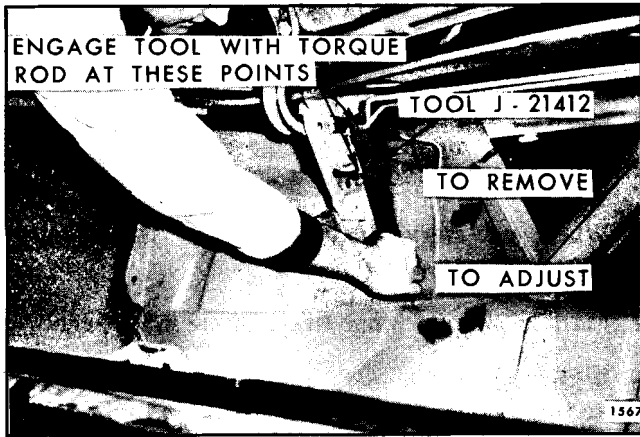

Fig. 8-14-Rear Compartment Torque Rod Adjustment—"A" Styles
- a. On "A" styles, use tool J-21412 or equivalent (Figure 8-14).
2. To remove torque rods, disengage end of torque rod from adjusting notches on hinge strap, as shown in Figures 8-14, 8-18 and 8-19. Then, allow handle of removal tool to rotate forward to relieve tension on rod. In some cases, it may be necessary to install a pair of vise-grip pliers on rod, as shown in Figures 8-18 and 8-19, and lift upward on pliers to disengage removal tool from end of rod.
1. To increase the amount of effort required to raise the rear compartment lid or to decrease the amount of effort required to close the lid, reposition the end of the rod to a lower torque rod adjusting notch (Figures 8-14, 8-15, 8-16 and 8-17).
2. To decrease the amount of effort required to raise the rear compartment lid or increase the amount of effort required to close the lid, reposition the end of the rod to a higher torque rod adjusting notch (Figures 8-14, 8-15, 8-16 and 8-17).